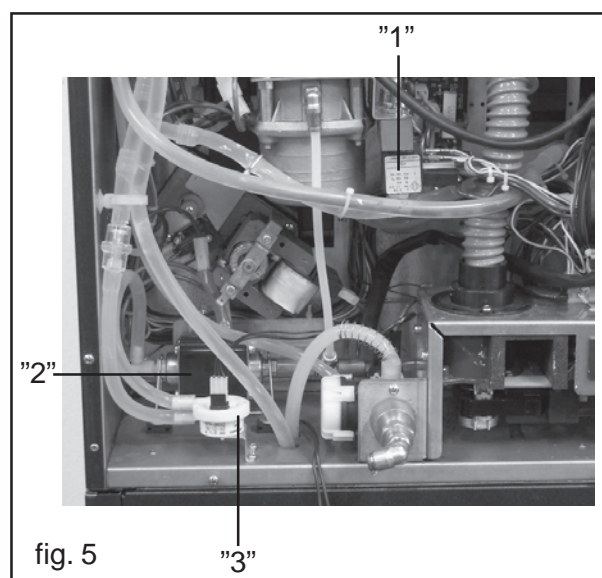

fig. 5
- the instant product solenoid valve (ref.'1' fig.5), located on the coffee boiler, starts and allows to fill the mixer with the preset amount of water. The pump (ref.'2' fig.5) is then activated and the preset amount of water dispensed, under the control of an appropriate electronic device (volumetric meter) (ref.'3' fig.5).
- the pump brewing the set quantity of water activates, under the control of an appropriate electronic device (volumetric meter) (ref. '3' fig. 5).
- the pump is activated and dispenses the preset quantity of water under the control of an appropriate electronic device (volumetric counter) (ref. "3" fig. 5).